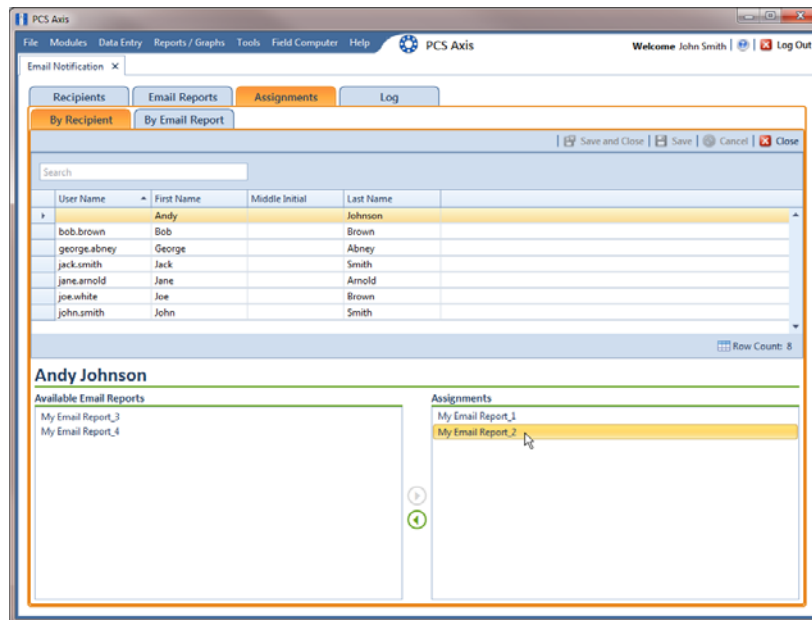

Figure 12-17. Email Notification Assignments By Recipient
- a Click **Tools > Email Notification > Assignments** tab. Then click  **Add/Remove Assignments** to open the *Email Notification Assignments* window (Figure 12-17).
- 2) Double-click a report in the *Assignments* pane to move it to the *Available Email Reports* pane. Then click  **Save**. The recipient receives email notifications only for those reports listed in the *Assignments* pane (Figure 12-17).